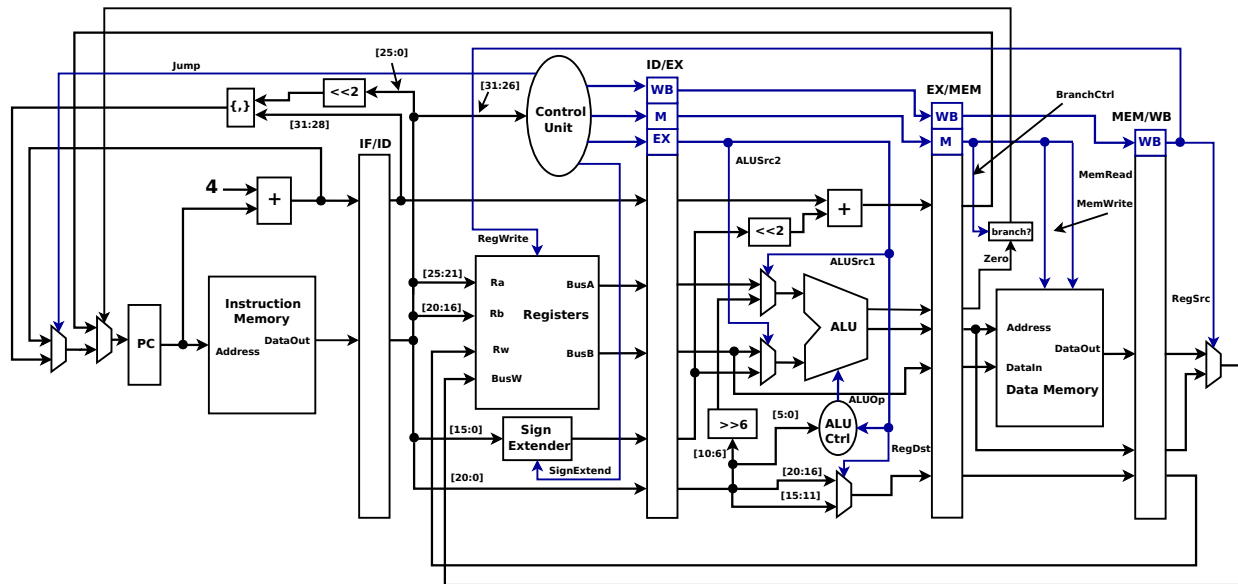

Figure 2: Simplified MIPS Pipeline
the register file. Thus, instruction decode includes the register read. The execute stage makes use of the ALU to compute a result for an R-type instruction or calculate an address for a load/store. The memory access stage is where the data memory is read or written to for a load or store respectively. For most R-type instructions, nothing is done in the memory stage. The write back stage is where data from the ALU or memory unit is stored into the register file for an R-type or load respectively. The MIPS pipeline is self-draining in the sense that control signals are generated in the early stages and propagate with the data. Likewise, all instructions must move through all five stages. Figure 2 provides a simplified view of the MIPS pipelined processor. The questions in this prelab will be based on this diagram
1. A data hazard exists in an in-order processor when an instruction reads from a register that is being written to by a previous instruction. This type of hazard is commonly referred to as a Read-After-Write (RAW) hazard. RAW data hazards must be handled properly in order to maintain correct code execution. One way to deal with data hazards is to stall the pipeline in the ID stage when the hazard is detected. For the data path shown in Figure 2, how many cycles would the pipeline need to be stalled when a RAW exists between two back-to-back R-type instructions? What about the case where an R-type instruction immediately follows a load? Likewise, can a branch instruction cause a RAW? What about a store instruction? Explain your answers for each of these!
- What modification to Figure 2 would we have to make to handle the aforementioned hazards? Please provide some detail.